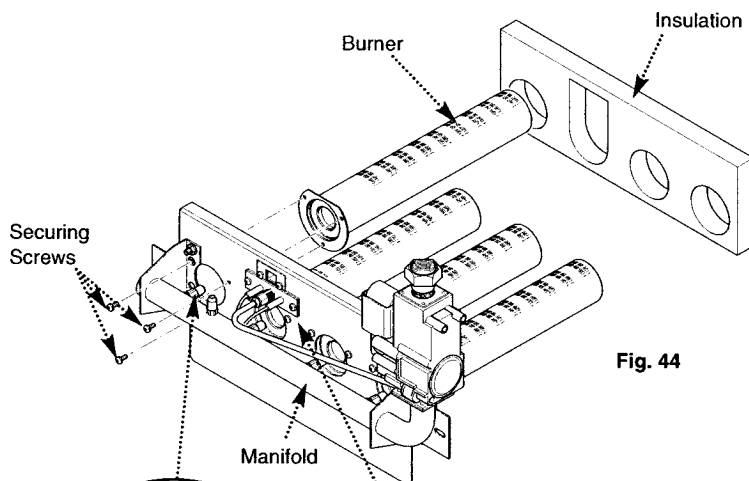

Fig. 44
4. Carefully draw the insulation piece away over the burners (Fig. 44).
5. Undo the screws securing the burner(s) to be replaced. Remove the burner(s) (Fig. 44).
### 10.5 Injector(s) (Figs. 44 & 45)
2. Undo the pilot bracket securing screws. Withdraw the bracket from the burner mounting plate. Carefully remove the pilot injector from the bracket (Figs. 44 & 46).